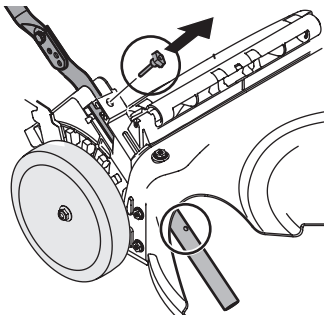
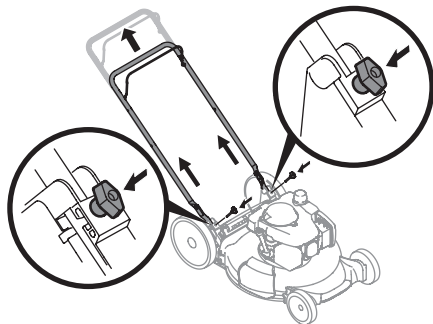

Figure 3
Figure 4
4. Remove T-bolts from the handle brackets (Figure 3).
5. Pull upward on the handle (Figure 4) until holes in lower handle line up with holes in handle brackets (Figure 3, deck cutaway).
6. Insert the T-bolts removed in STEP 4 through the handle brackets, lower handle (Figure 4 on page 7) and tighten securely to secure the handle in place.